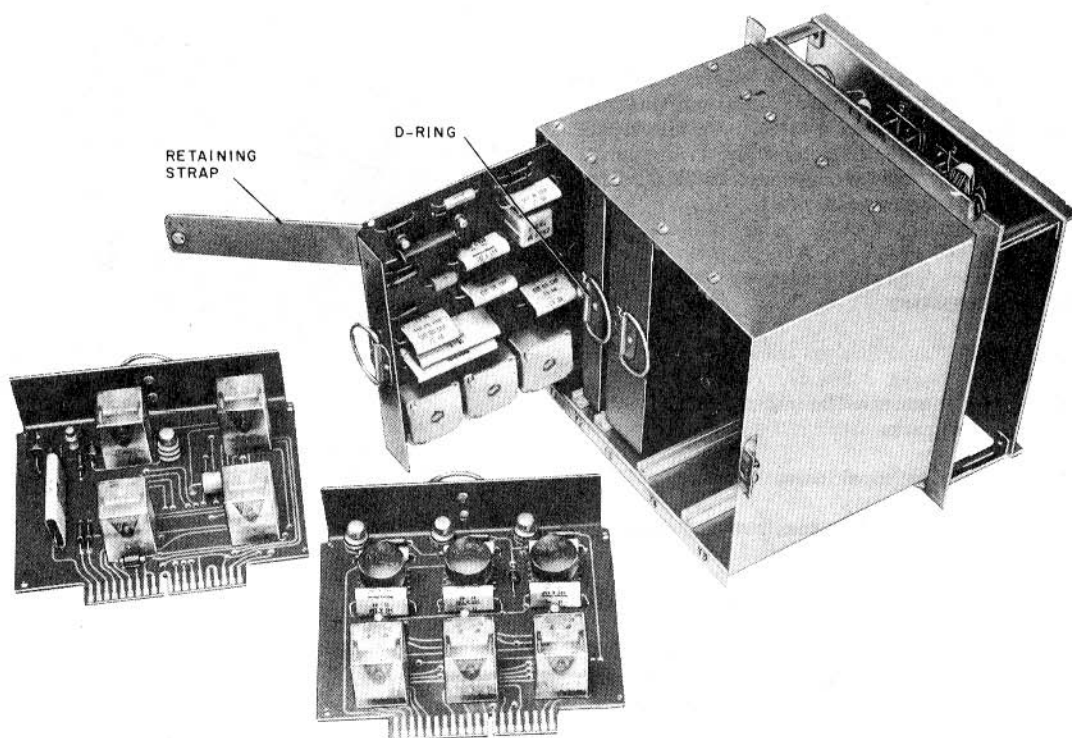

Fig. 3—247B KTU, Circuit Pack Removal
5.02 To replace circuit packs (Fig. 3):